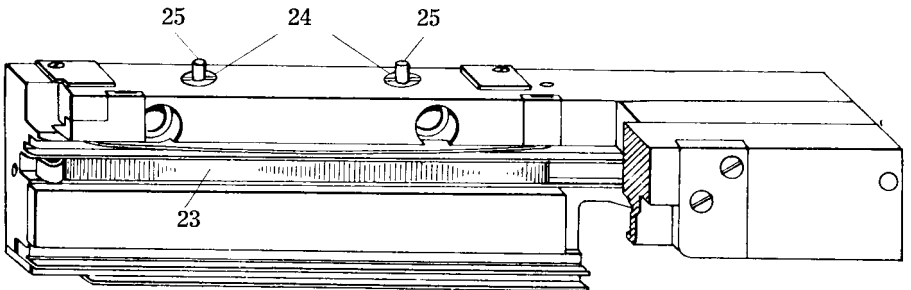

FIG. 5-32. View of the first elevator front jaw with the matrix detent in position to steady the last matrix of the line.
*Matrix Detent*—The first elevator jaw is equipped with a matrix detent 23, Fig. 5-32. Its purpose is to steady the last matrix of each line delivered into the jaw. It will be observed that when quadding left or centering, the last matrix is moved away from the jaw spring pawls. In this position, the detent comes in contact with the last matrix and prevents it from turning and falling out of the jaw as the first elevator rises after casting. Its action is equally effective in recasting. This detent should be kept clean and in good operating condition at all times.
stop is forced outward allowing the detent to hold the matrices in position. When the line of matrices is being transferred to the second elevator bar, the transfer rod attached to the transfer slide carries the line stop fully into the first elevator jaw. At the transfer position the plungers 25, Fig. 5-32, are depressed, which action withdraws the matrix detent so that there is no tension against the matrices at this position. It is important that the transfer rod should carry the line stop fully into the first elevator jaw to be in position for the next line of matrices to enter.
To remove matrix detent 23, Fig. 5-32, from front jaw, remove screws 24 and pull out plungers and springs 25. Removal of these parts will allow detent to come out of jaw. Recessed in the jaw you will find two springs which press against the detent shoes that are attached to detent 23. As all parts are now removed, the front jaw can be cleaned.